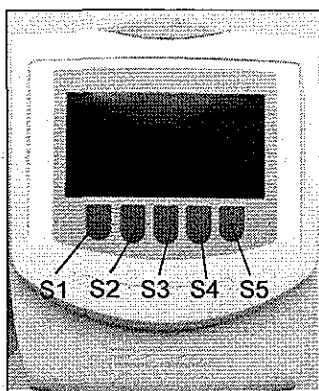

Figure 4-23: Membrane Keys
3. For each membrane key (see Figure 4-23) place the digital voltmeter test leads across the related pins (see Table 4-2) on the ribbon connector and measure the resistance. Observe the resistance while pressing and releasing the key several times. The digital voltmeter should show a closed circuit (approximately 0 ohms) while the key is depressed and an open circuit when the key is released.